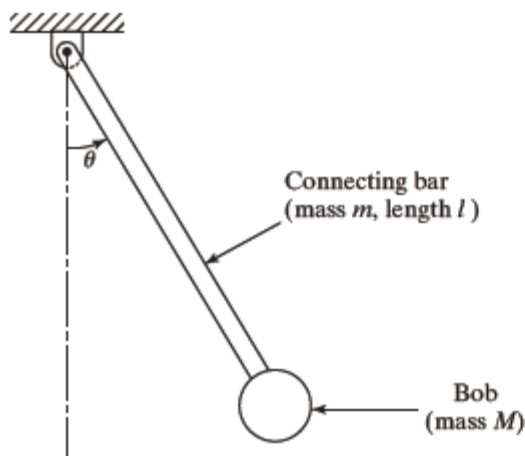

FIGURE 2.95
- 2.71 Find the natural frequency of the pendulum shown in Fig. 2.95 when the mass of the connecting bar is not negligible compared to the mass of the pendulum bob.